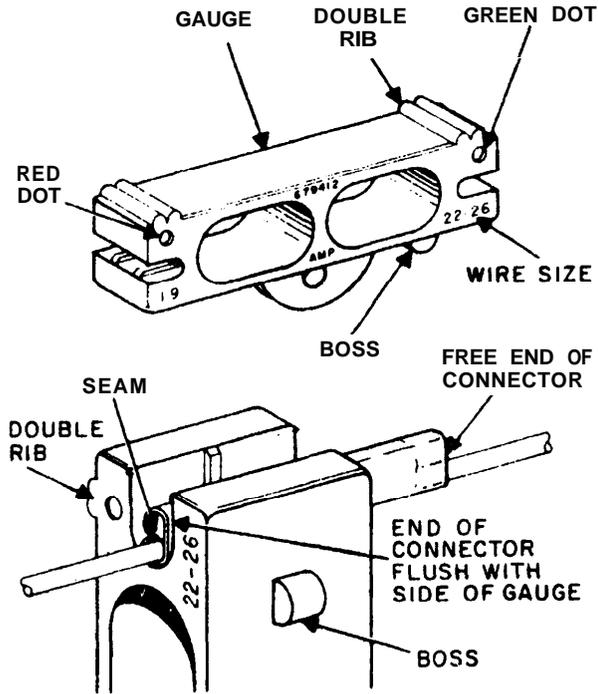

Figure 11. Method of Inserting Connector in Crimp Gauge.
5.03 After a splice has been completed, one side of the crimped connector will have a seam. Insert the connector into the proper gauge end so the seam faces the double rib of the gauge as shown in Figure 11. Position the connector so the edge of the connector is flush with the side of the gauge.